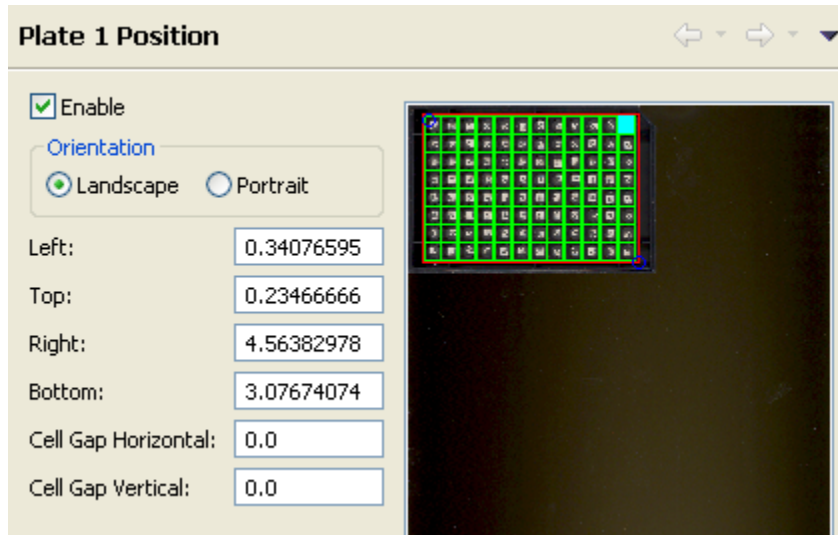

Figure 2.8: Grid aligned with tubes.
8. Once the grid cells are aligned with each tube press the **OK** button (see Figure 2.8). The wheel on the mouse can be used to make the cells smaller or bigger (this is referred to as the *Cell Gap*).